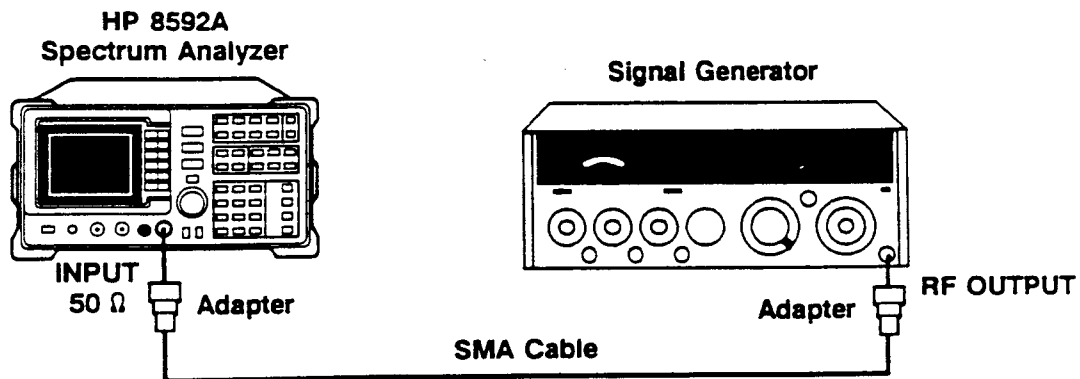

Figure 1-2. Noise Sideband Test Setup
2. Connect the equipment as shown in Figure 1-2.